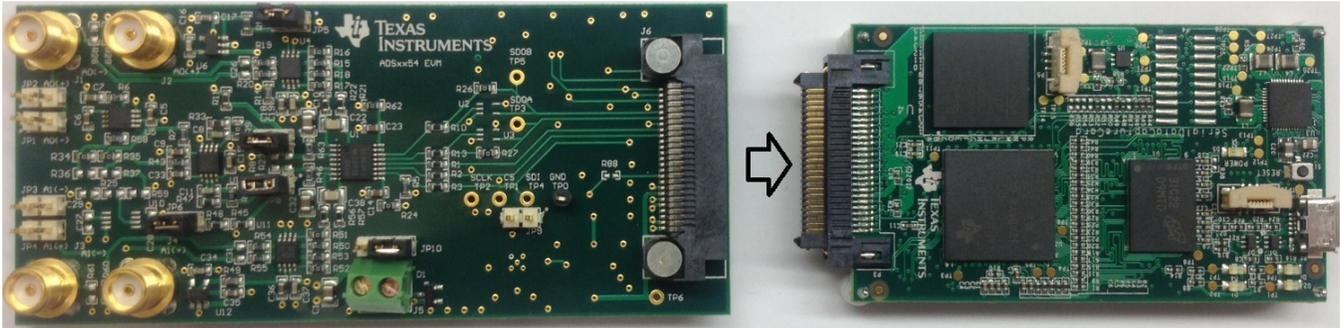

Figure 6. Connecting ADSxx54EVM Board to SDCC Controller Board
- Step 3. Connect the ADSxx54EVM board to the SDCC controller board as Figure 6 illustrates.